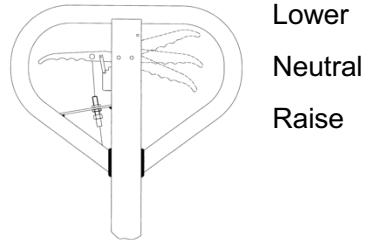

Fig. 10: Lever
- c) If the forks do not descent when the control handle is in the **Lower** position, turn the adjusting nut clockwise until raising the control handle lowers the forks. Then check the **Neutral** position according to fig. 10 and be sure that the adjusting nut is in the proper position.